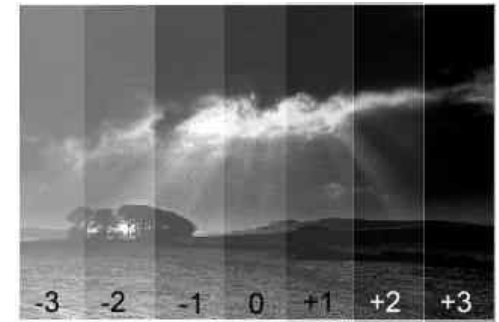

Fig.9
- 4 Place a piece of paper in the easel, set your timer to the indicated time and expose the whole of the paper. Press again and set your timer to the indicated time. Cover a strip of paper (about 1/7th) and expose the rest of the paper. Repeat this sequence, progressively covering the paper, for the complete test strip sequence of seven exposures (Fig.9). Process and dry your test strip, and examine it carefully.
is the exposure compensation that is necessary for that paper type and grade combination. Fig.9 shows a correctly exposed test strip. If there isn't a correctly exposed strip, go to section 8.2.